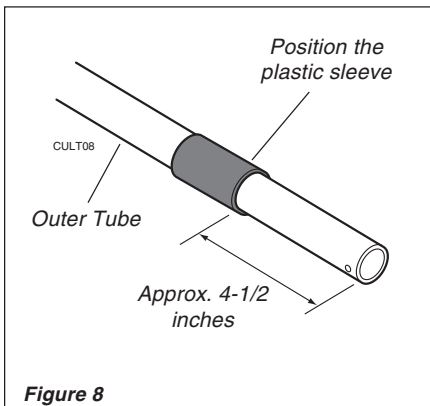

Figure 8
1. Push the plastic sleeve over the outer tube, and position the sleeve approx. 4-1/2 inches from the end of the tube. See Figure 8.